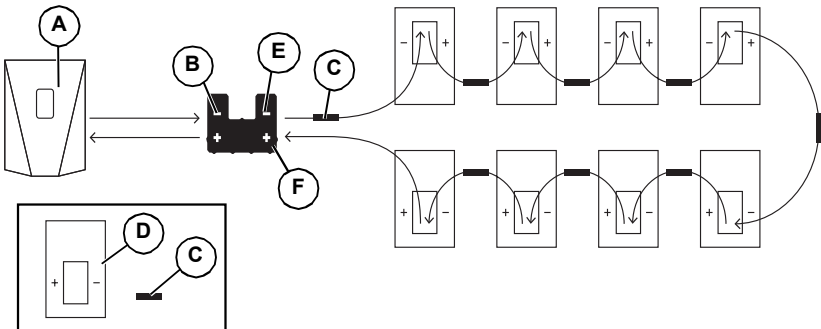

Figure 5-4. Single-String PV Array with SnapRS Device
- See Figure 5-4. PV modules are installed in series with SnapRS devices connected inline between each module.
1. See Figure 5-4. For each PV module in the PV string, connect the positive (+) end of one SnapRS device (C) to the negative (-) whip of the PV Module (D).
3. Connect the PV string positive lead to PV Link (B) at the location marked PV Substring Input + (F). See Component Locations for more information.
4. Connect the PV string negative lead with its connected SnapRS device to PV Link (B) at the location marked PV Substring Input - (E). See Component Locations for more information.